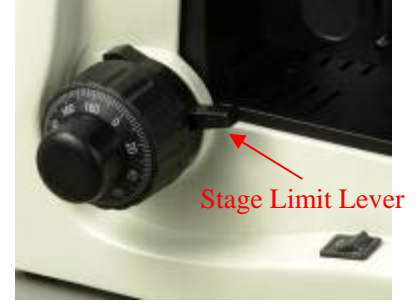

Fig.11
To prevent your specimen slide from making contact with an objective, raise the stage (13) to its highest position without contacting the 100X objective, then tighten the mechanical stage upper limit lever (Fig. 11).